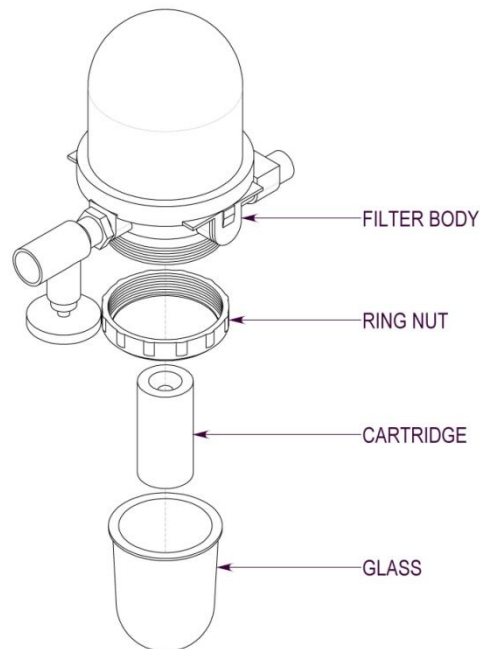

Fig. 5.3.1
- Remove filter glass unscrewing the threaded collar as shown (Fig. 5.3.1) and inspect inner filtering cartridge. Replace cartridge if dirty or clogged.